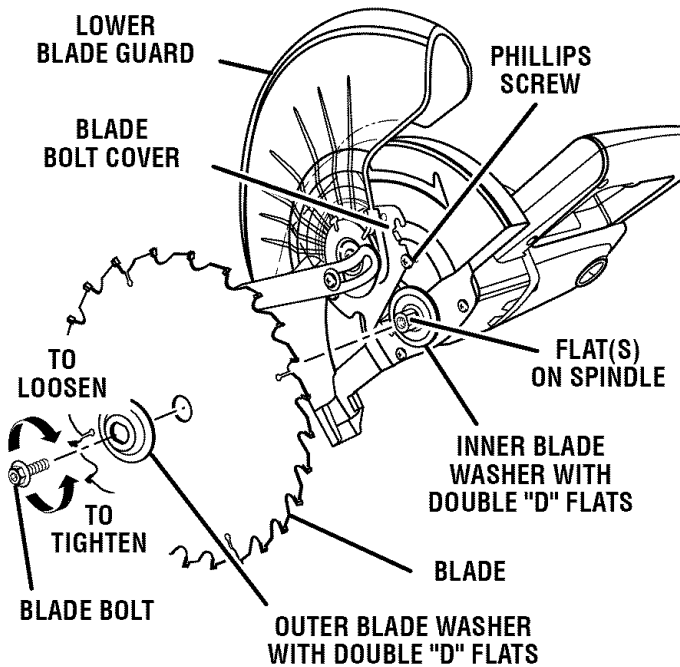

Fig. 13
- Depress the spindle lock button and rotate the blade bolt until the spindle locks. See Figure 13.
- Fit saw blade inside lower blade guard and onto spindle. The blade teeth point downward at the front of saw as shown in figure 13.
- Retighten phillips screw securing blade bolt cover. Tighten screw securely. *See Figure 13.*